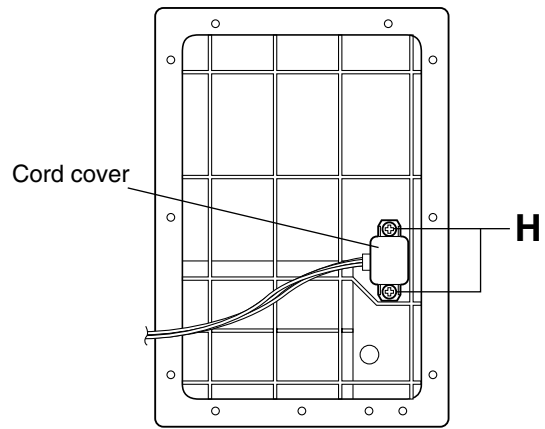

Fig.7
■ Removing the power transformer (See Figs. 7 and 8.)